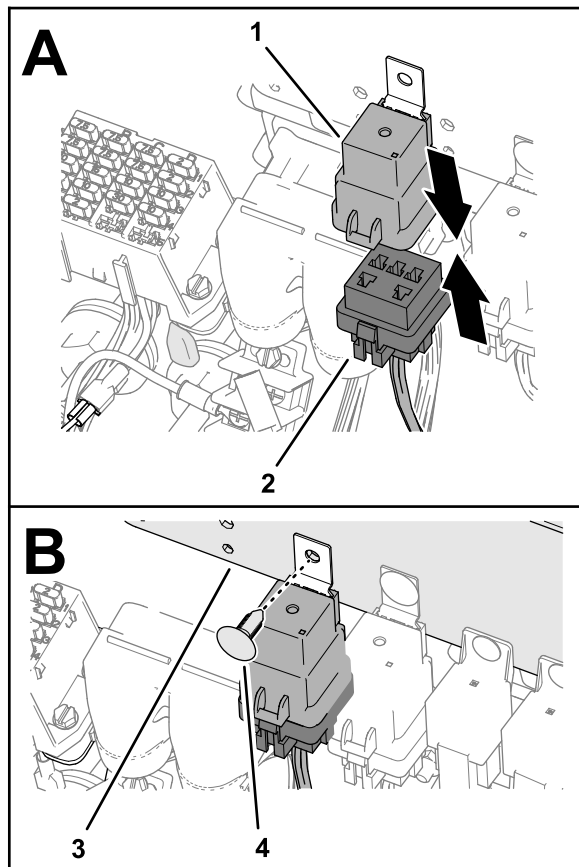

Figure 12
1. Plug the relay into the 5-socket connector of the kit wire harness (Figure 12).
2. Align the hole in the tab of the relay with the hole in the electrical plate, and secure the relay to the plate with a push-in fastener (Figure 12).